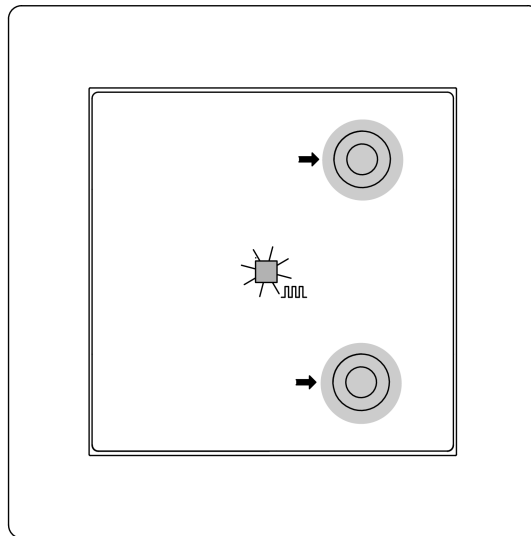
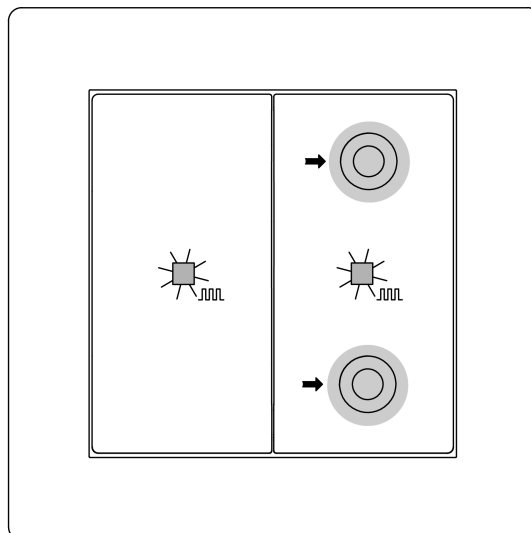

Figure 5: Activating programming mode (1-gang)
Figure 6: Activating programming mode (2-gang)
Programming the physical address and application program, 1-gang (see figure 5) and 2-gang (see figure 6)
- Activate programming mode: Press the top right button and bottom right button simultaneously and hold for longer than 4 seconds with 1-gang (see figure 5) and 2-gang (see figure 6).